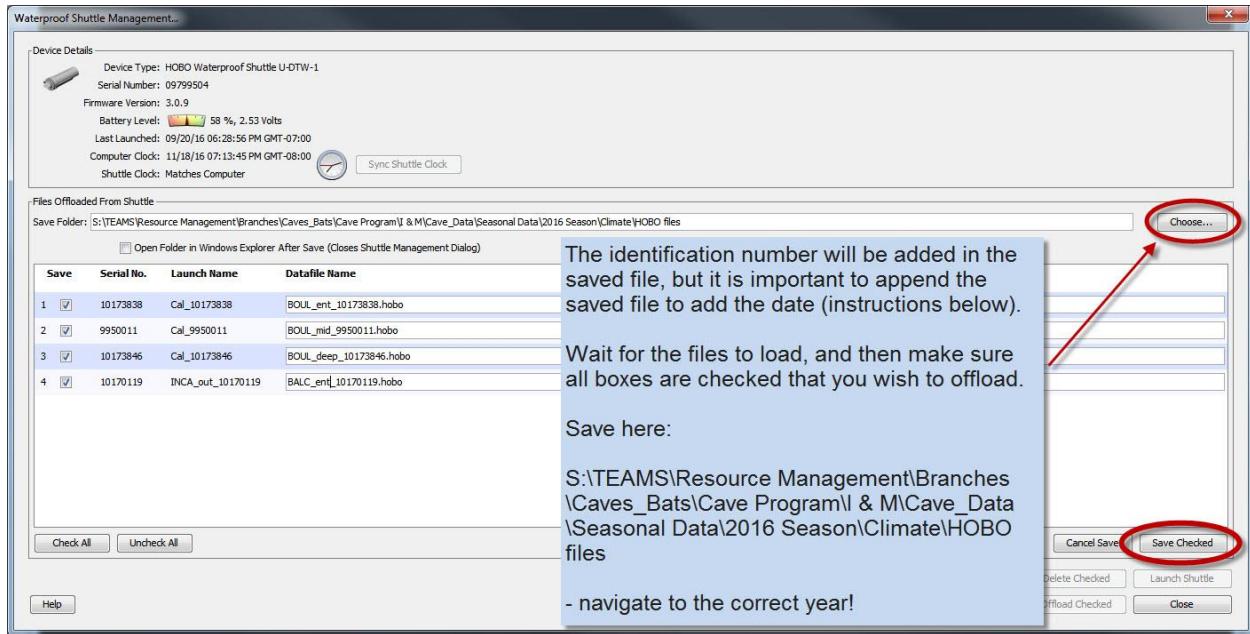

Figure 5-8. Device Readout screen, with added notation for saving uploaded files. The download location may change.
3. Navigate to the “Save Folder” line and select “Choose” on the right side. Save files here per the guidance in SOP #15: Data Transfer, Storage and Archiving (Figure 5-8).